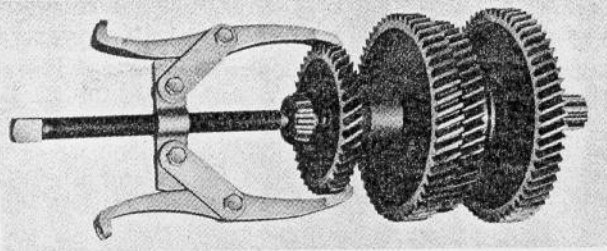

Fig. 18
- a. Pull the front bearing (J-Figure 17), thrust washer (I-Figure 17) and the fourth gear (H-Figure 17) as a unit. See Figure 18.